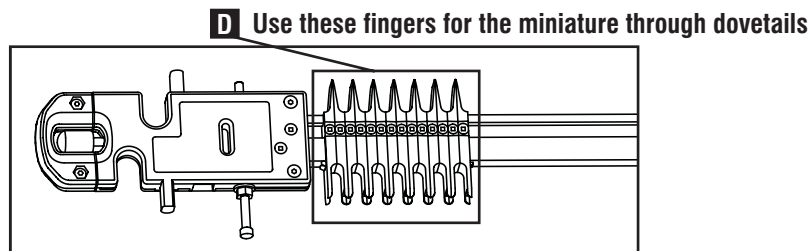

Fig. D3
**NOTE:** For the miniature variable fingers, the fingers shown at (D) Fig. D3 are the proper fingers for doing through dovetails.